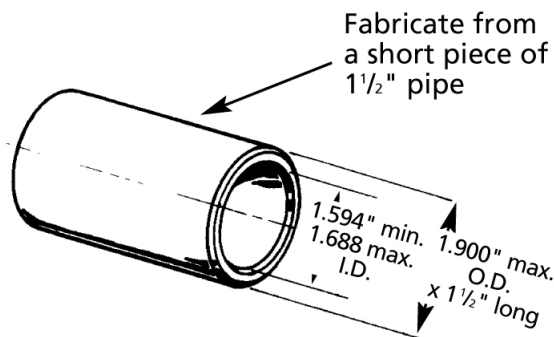

Figure 2 - Seal Installation Tool
Refer to Figures 2, 3 and 4.
8. Apply a light coat of sealing compound to new seal head (See Figure 2) and press it into casing cover recess using proper size tube or installation tool (See Figure 2). DO NOT press on carbon face or top of metal cup of the seal head. Install using flange only.